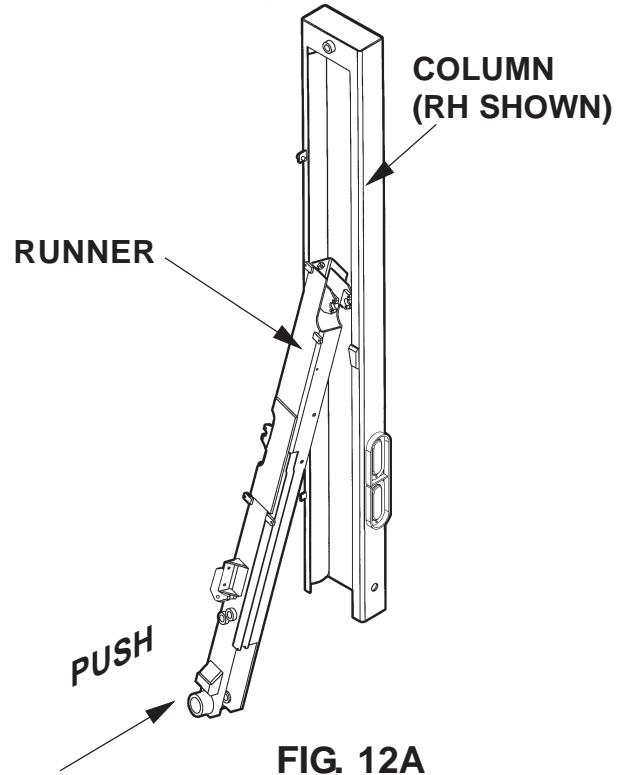

FIG. 12A
15. To install replacement Runner, grasp upper end of Runner and place it in Column as shown in **FIG. 12A**. Grasp lower end of Runner and push it in correct position in the Column.